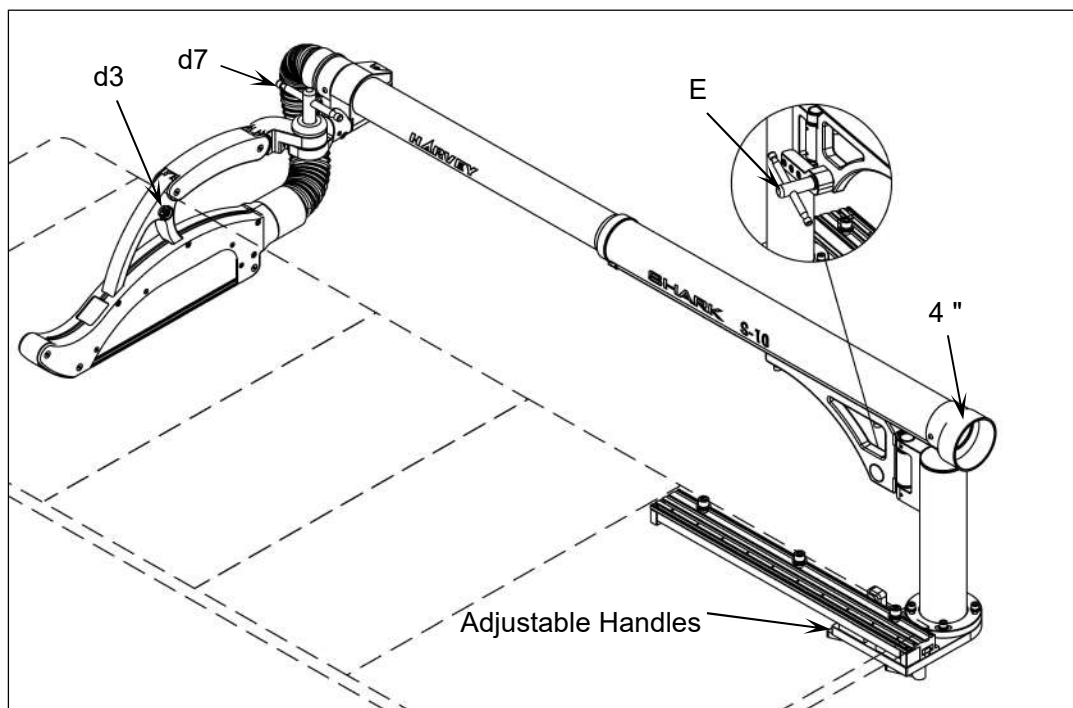

Fig. 20
1. Connect an appropriate dust collection system that meets or exceeds the minimum recommended airflow requirements of the table saw to the 4" (100 mm) hose connector shown in **Fig. 20**.